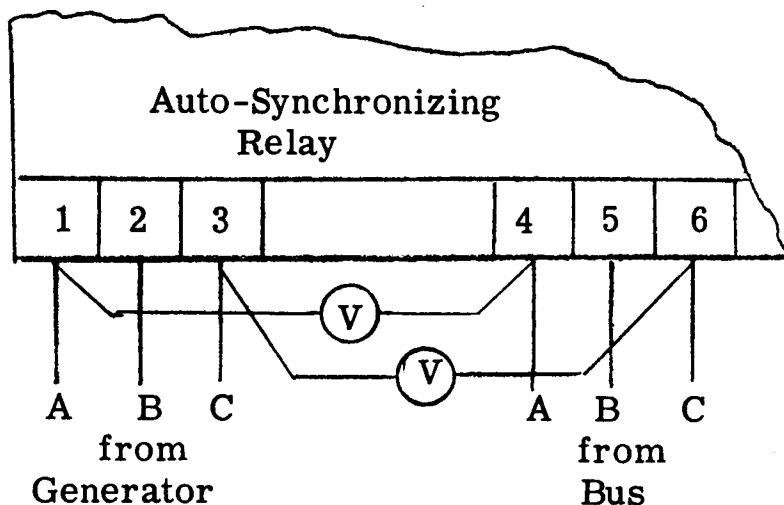

FIGURE 2-5: PHASE ROTATION TEST SET-UP
2.5.1.2 A sample test for correct phase rotation is to connect two AC voltmeters (+3% accuracy is acceptable) as shown in Figure 2-5, and observe that both meters indicate increasing or decreasing voltage simultaneously. If one meter reading increases while the other decreases, the phase rotation is incorrect and the connections must be changed.